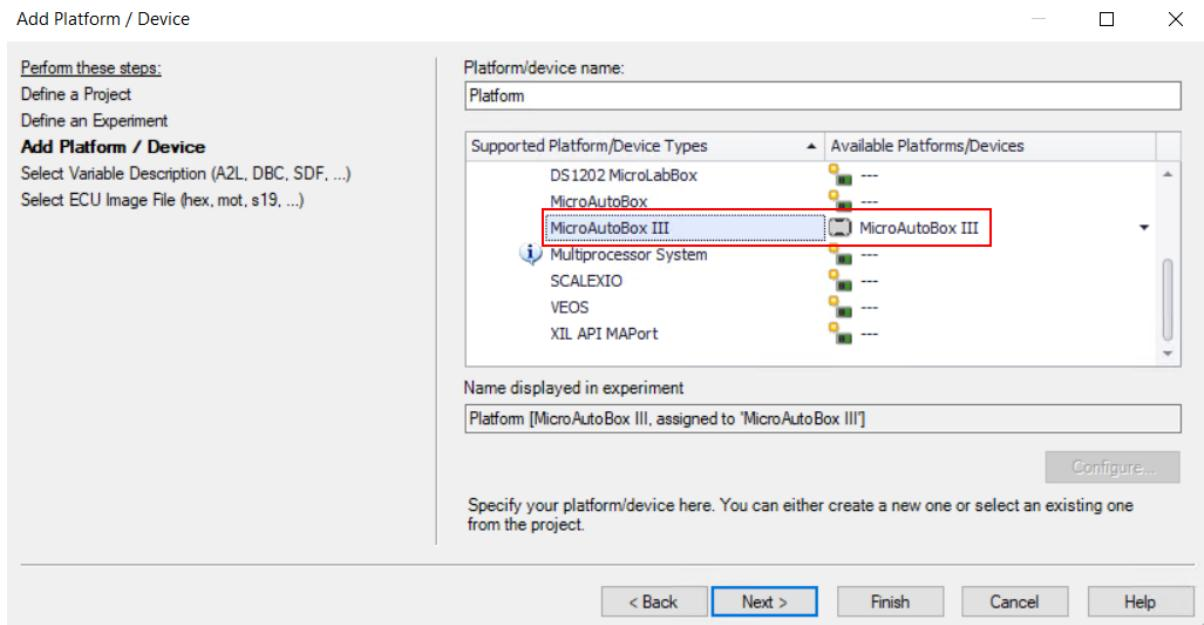

Figure 13.78: Select the MicroAutoBox III platform.
- 4) Select the platform to which you will deploy the generated executable (see Figure 13.78).